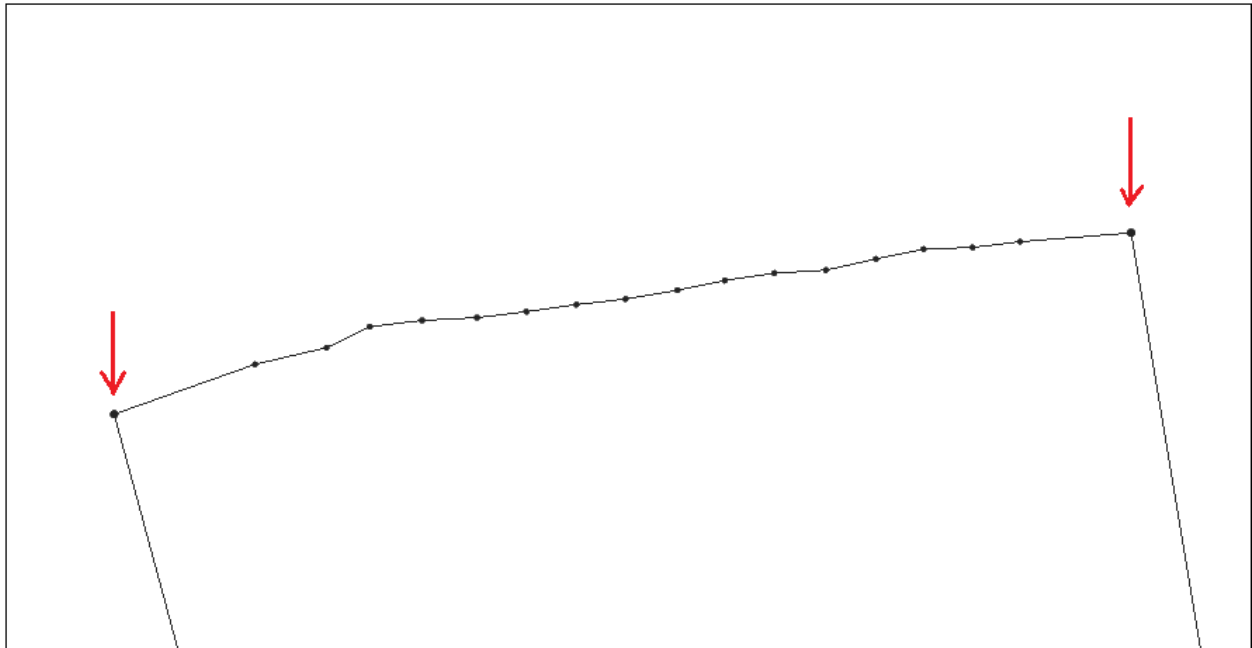

Figure 3
3. Now zoom into the upper boundary of the coverage, and select the two corner vertices using the *Select Feature Vertex*  tool. The two can be selected together by holding down the *Shift* button on your keyboard. Once selected, right-click and select *Convert to Nodes*. Figure 3 shows the nodes that were created.